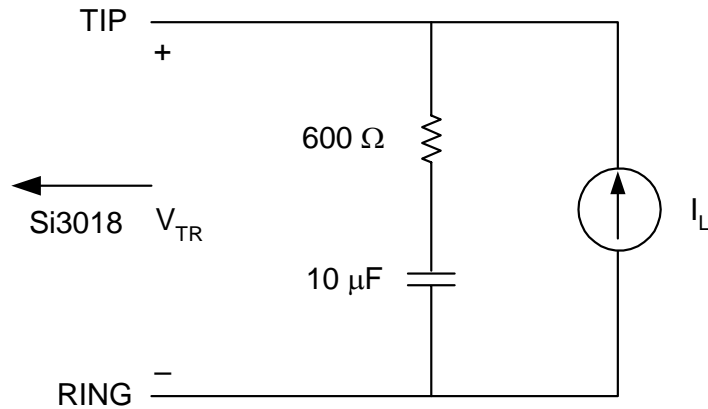

Figure 1. Test Circuit for Loop Characteristics
($V_D = 3.0$ to 3.6 V, $T_A = 0$ to 70 °C for K-Grade, see Figure 1)
2. Measured at TIP and RING with 600 Ω termination at 1 kHz, as shown in Figure 1.
2. Measured at TIP and RING with 600Ω termination at 1 kHz, as shown in Figure 1.